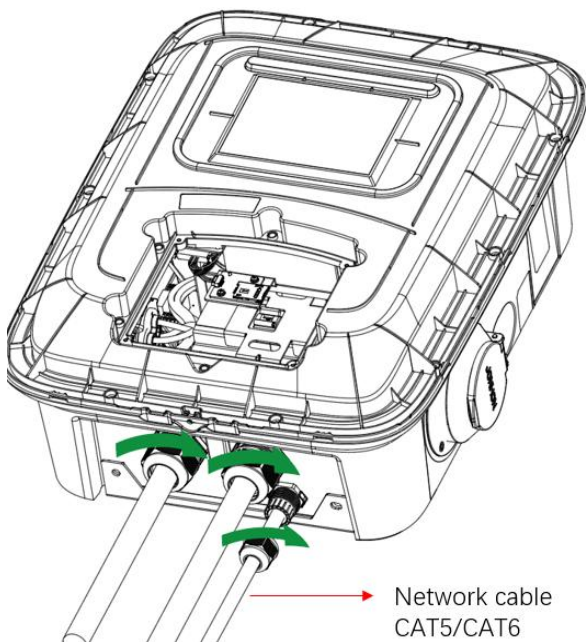

Figure 4-19 Network cable inlet
- (8) Network Connection: If Ethernet communication is required, a CAT5 or CAT6 network cable can be connected.
- Remove the rubber plug and waterproof rubber ring, put the network cable in the waterproof rubber ring, then connect the network cable to the charger through the gland, crimp the RJ45 connector and connect it to the internal network cable interface. Tighten all inlet glands with a torque wrench (as shown in Figure 4-19 and 4-20). The torque of incoming cable gland is 7.5N.m, and that of network cable gland is 3.75N.m.